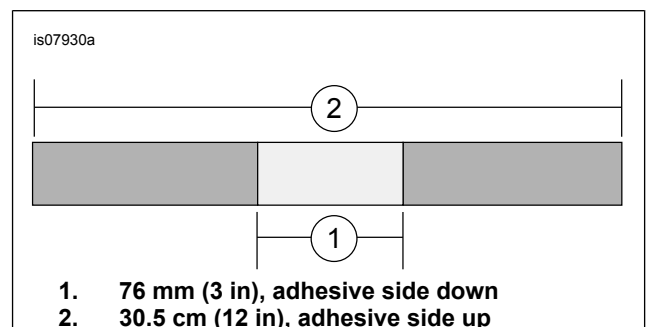

Figure 1. Create tack free zone
7. See Figure 1. Prepare the following pieces of masking tape. Cut (2) 30.5 cm (12 in) and 76 mm (3 in) strips of masking tape. Apply the 76 mm (3 in) strips to the center of the 30.5 cm (12 in) strips, adhesive to adhesive, creating a tack free zone.